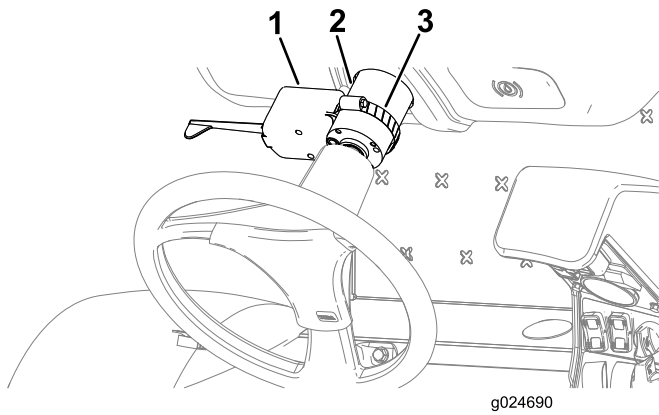

Figure 19
2. Place the hose clamp over the steering-wheel valve, and insert the hose clamp through the opening on the turn-signal switch (Figure 19).
3. Secure the turn-signal switch to the steering column with the hose clamp (Figure 19).